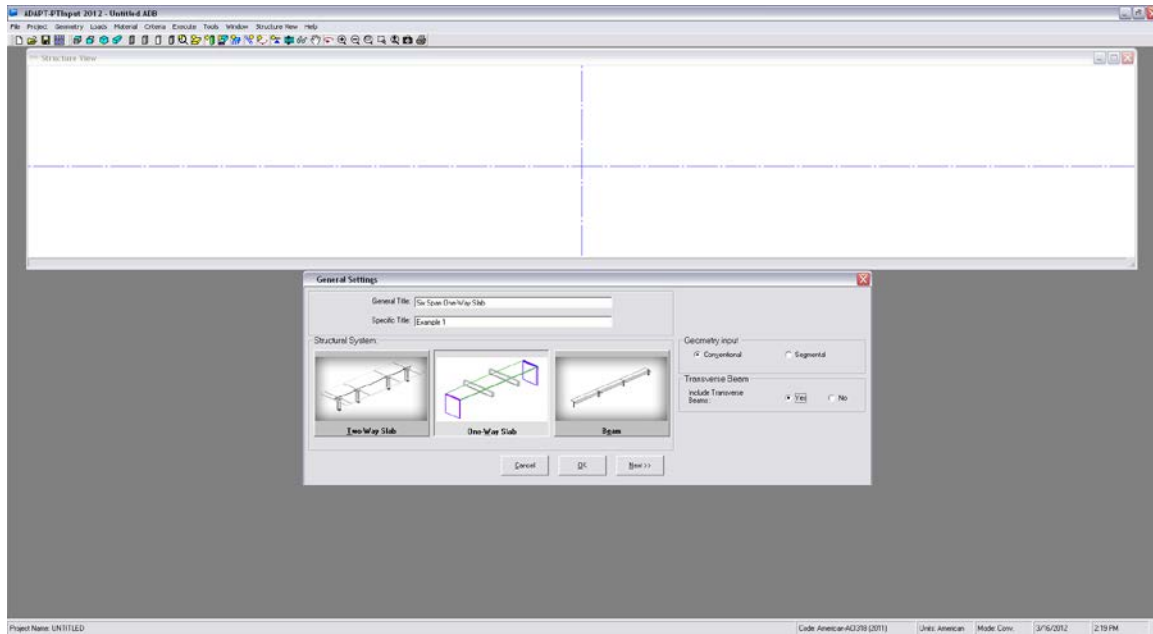

FIGURE 2.1-1
2.1.1.1 General Settings (Fig. 2.1-1)
Open a new project by clicking either **New** on the *file* menu or the **New Project** button on the toolbar. This automatically opens the *General Settings* input screen as shown in **Fig. 2.1-1**. You can enter the General title and/or Specific title of the project.